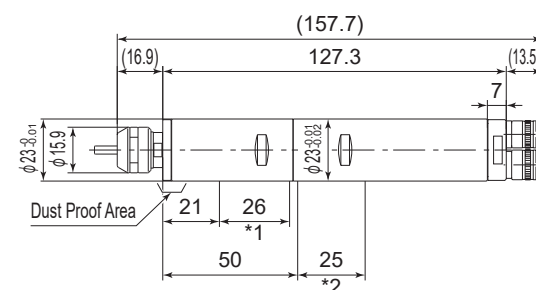
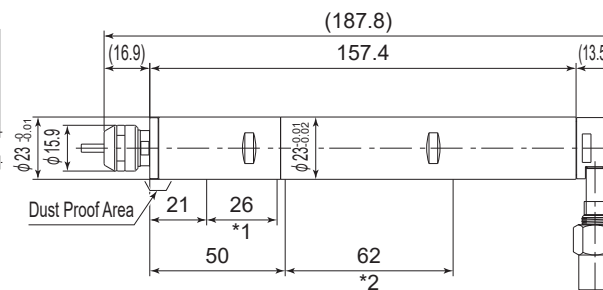

Fig. 1 R Type
Fig. 6 RA Type
- When mounting an Air Motor Spindle, refer to the Clamping Area etched on the Air Motor Spindle. These Air Motor Spindle have 2 Clamping Area refer to "6 - 2 Outside View (Fig. 1- Fig. 6)".